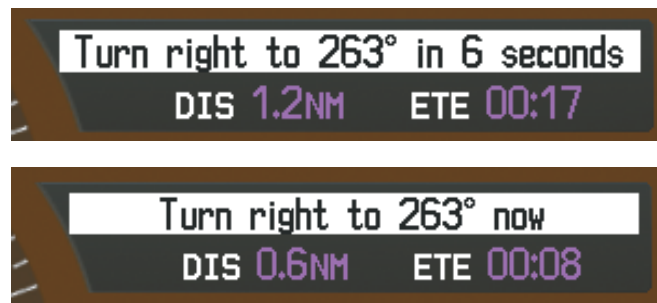

Figure 5-173 Turn to Intercept V244
- 8) At SLN, Victor Airway 244 (V244) is intercepted. Turn prompts are displayed in the PFD Navigation Status Box as seen in Figure 5-173.